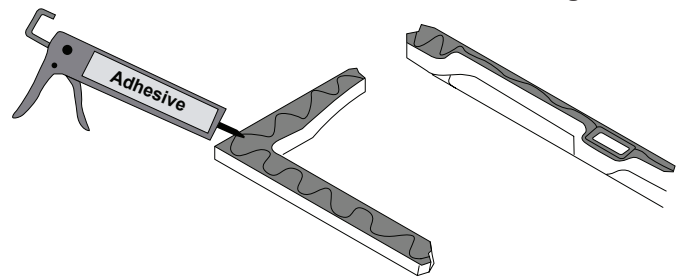

Figure 4
- ⑤ Apply adhesive (supplied with the bathtub) to top tub deck as shown (Figure 4). Lay adhesive bead sparingly around the control panel cutout hole. Too much adhesive surrounding the cutout hole will squeeze into the opening and interfere with the control panel installation.